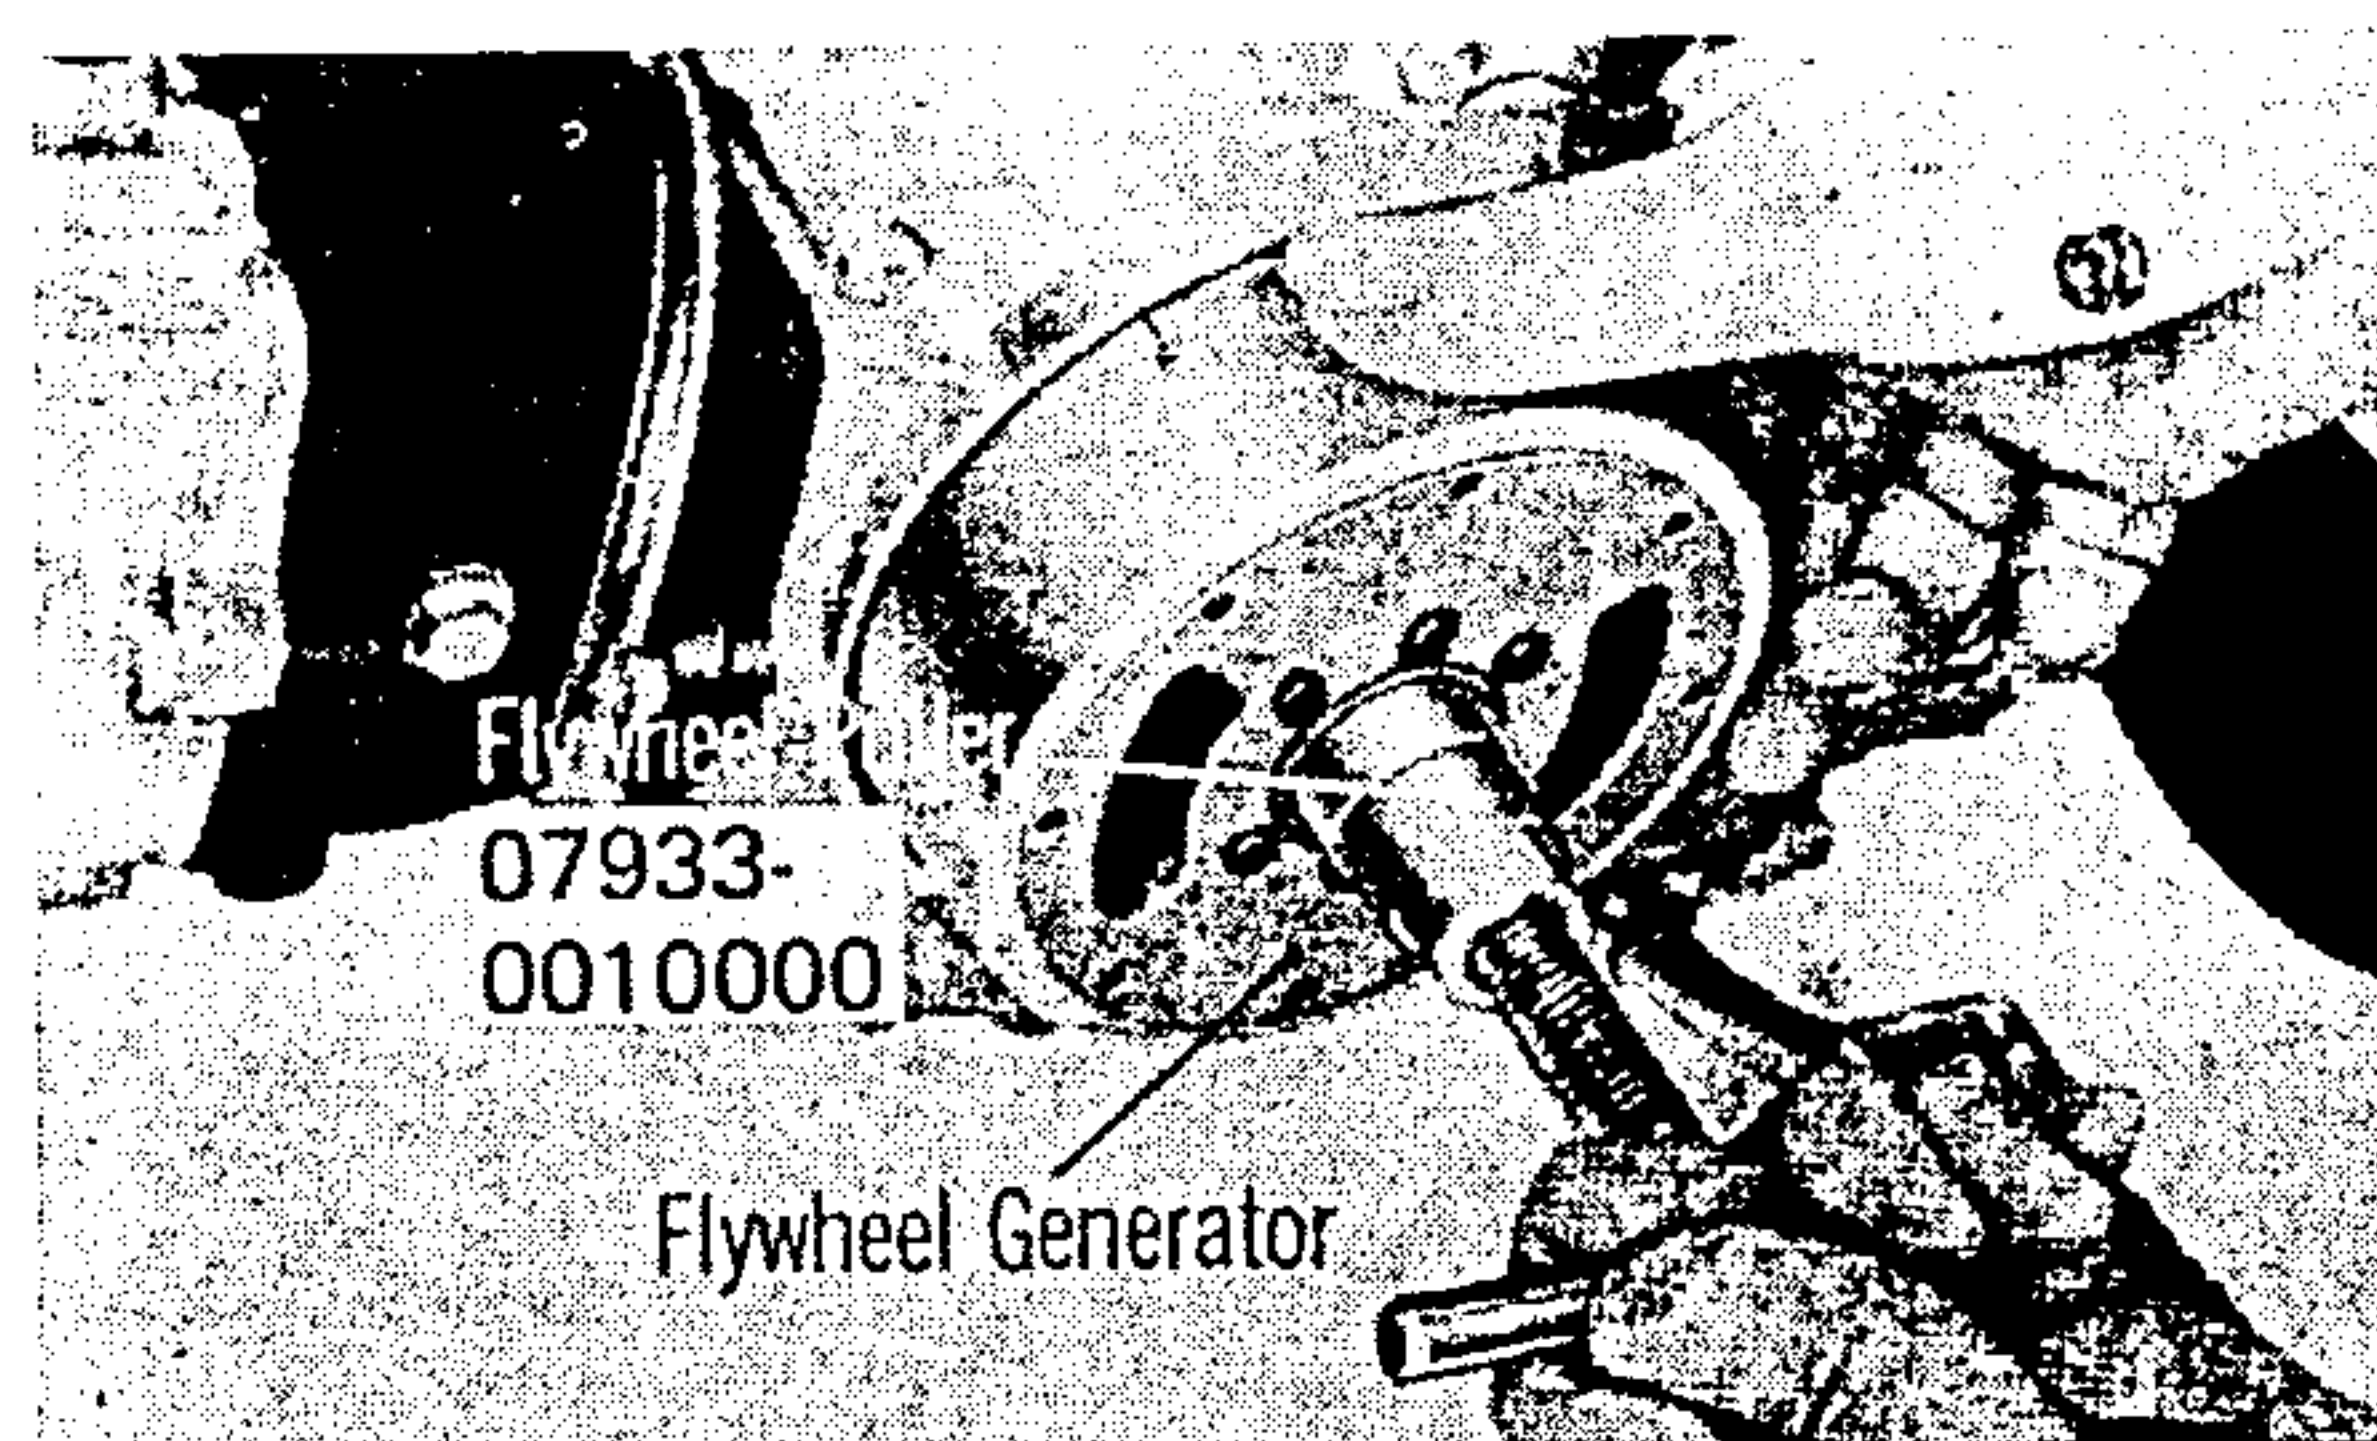

Fig. 13
4. Remove the flywheel with the flywheel puller. (Tool No. 07933-0010000). Remove the stator assembly (Fig. 13)